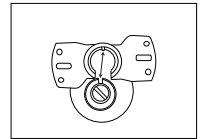

Figure 2
2. Insert the downrod ball head into the groove of the mounting bracket. (Figure 2)
Deep-profile use (Figure 2)